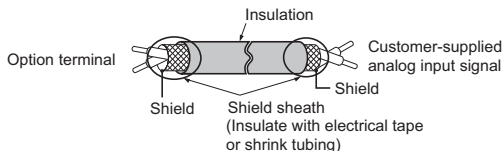
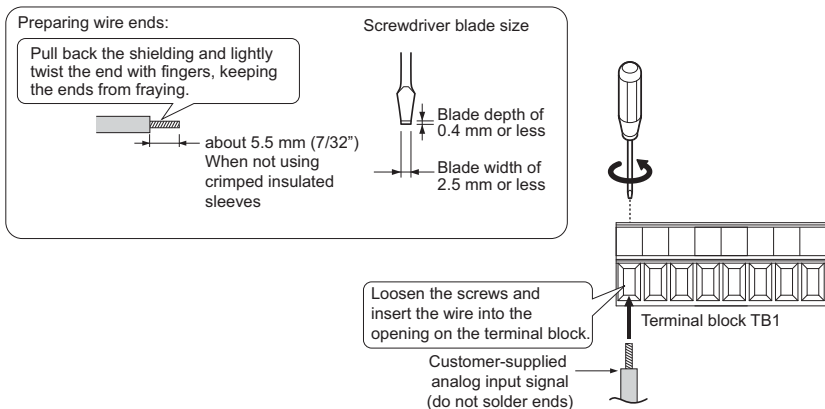

Figure 7 Preparing Ends of Shielded Cable
Figure 8 Preparing and Connecting Cable Wiring
5. Prepare and connect the wire ends as shown in Figure 7 and Figure 8. Refer to Wire Gauges, Tightening Torques, and Crimp Terminals on page 20 to confirm that the proper tightening torque is applied to each terminal. Take particular precaution to ensure that each wire is properly connected and wire insulation is not accidentally pinched into electrical terminals.